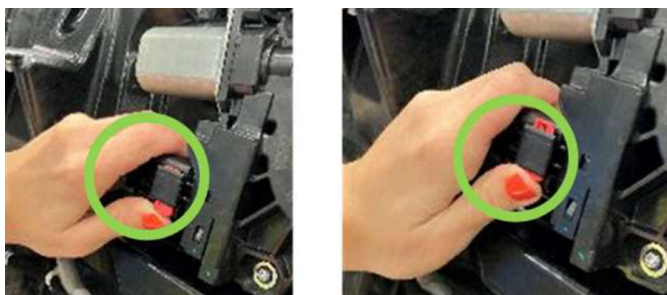

Fig. 33
37. Connect the wire harness connector to the motor connector and lock the connector locking tab to ensure the harness connector is fully seated Fig. 33.